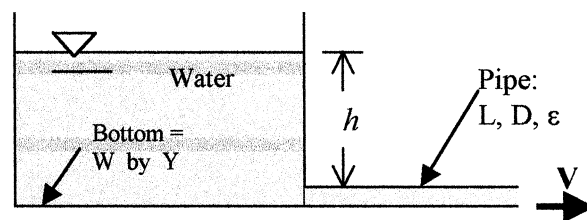

Fig. P6.54
**6.54\*** A swimming pool  $W$  by  $Y$  by  $h$  deep is to be emptied by gravity through the long pipe shown in Fig. P6.54. Assuming an average pipe friction factor  $f_{av}$  and neglecting minor losses, derive a formula for the time to empty the tank from an initial level  $h_0$ .